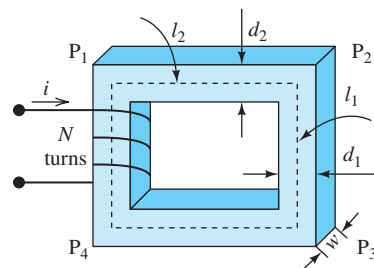

FIGURE P12.14 Magnetic core.
- 12.14 (H) A closed magnetic core is given in Figure P12.14.